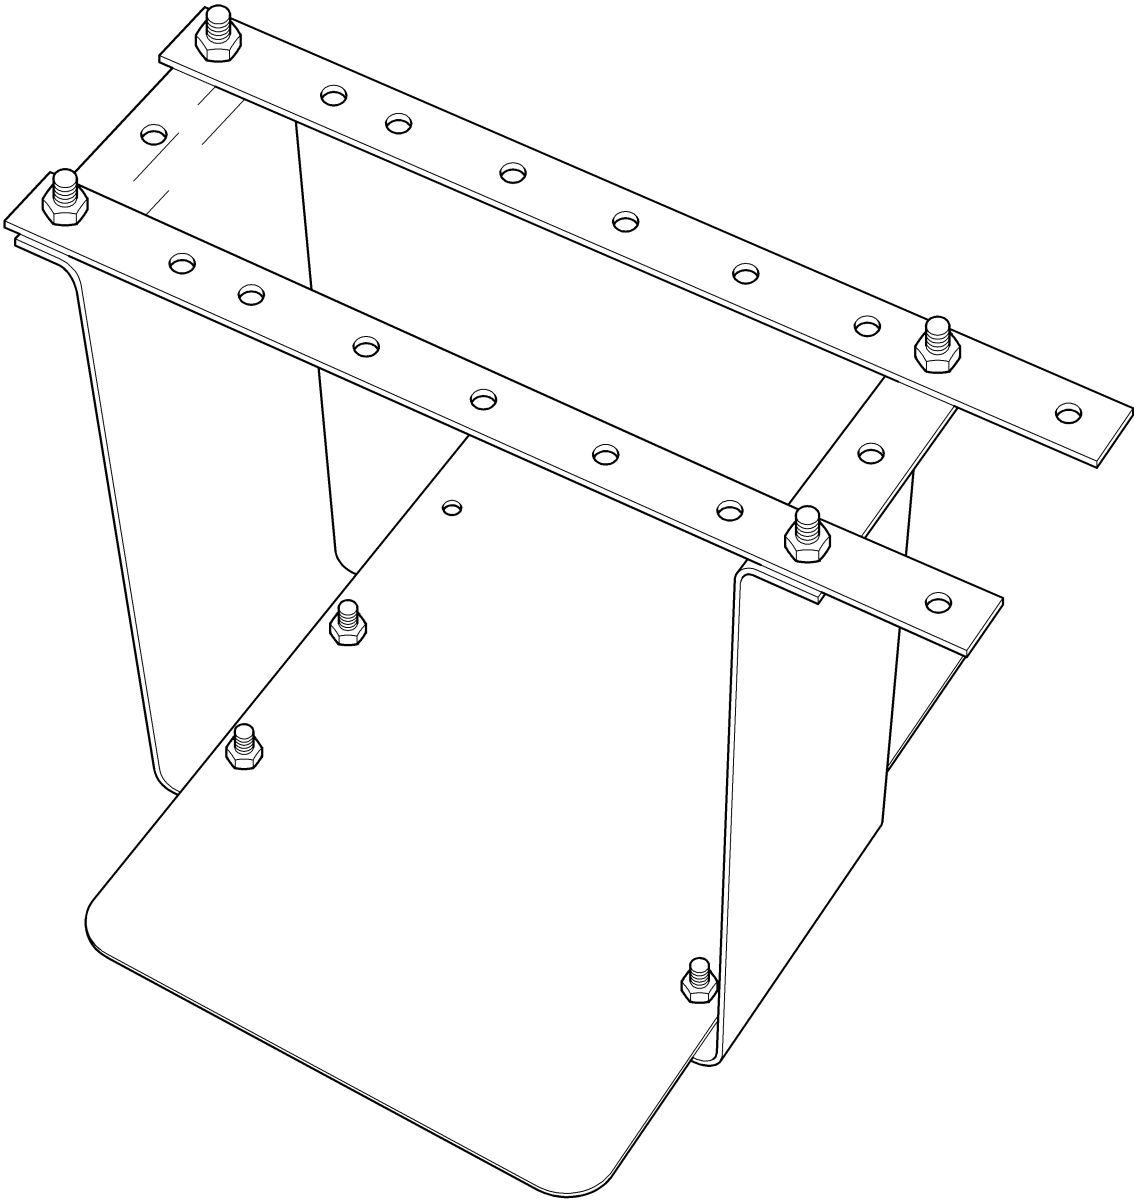

Fig 1 Typical wheel chock bracket mounting assembly
- 9.1 The Chock Bracket Assembly (Fig 1) is to be mounted under the Jerry can holder.
- 9.6 The assembled Chock Bracket Assembly (Fig 1) is to be mounted at the rear of the Fire extinguisher and directly forward of the rear wheels.